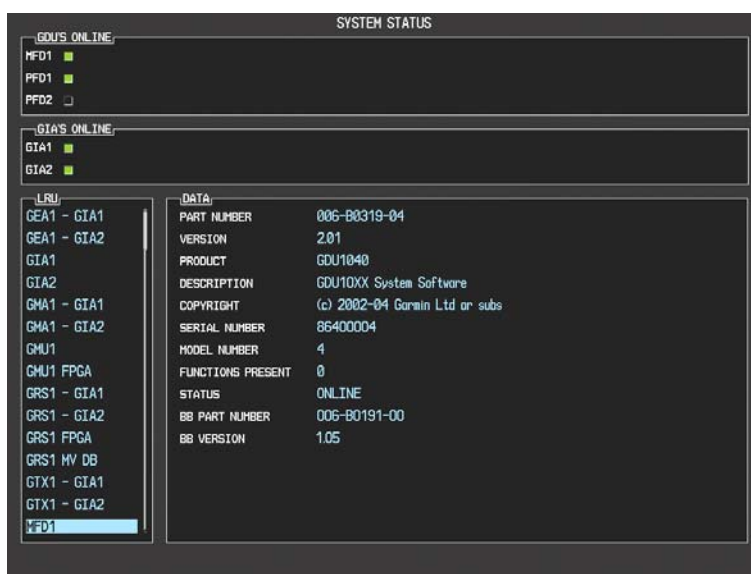

Figure 6-1. System Status Page (Configuration Mode)
2. The System Status Page (Figure 6-1) shows a list of LRUs in the LRU window. Activate the cursor and use the FMS knob to scroll through the list in the window and select the displayed LRUs.